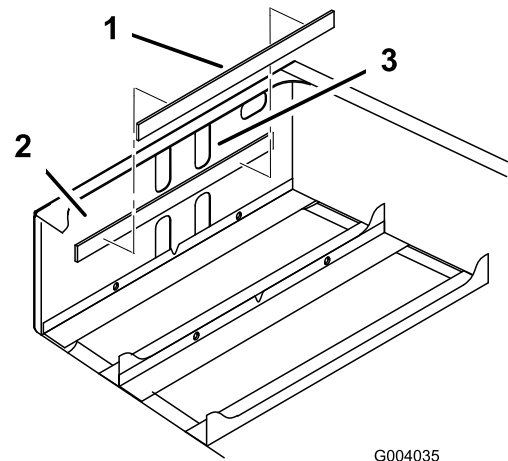

Figure 5
3. Remove the adhesive strip from the back of the battery pad and install it to the front inside face of the rear frame as shown in Figure 5.
Note: The pad should be approximately 1/4 inch below the bottom edge of the upper set of cut-out holes (Figure 5).